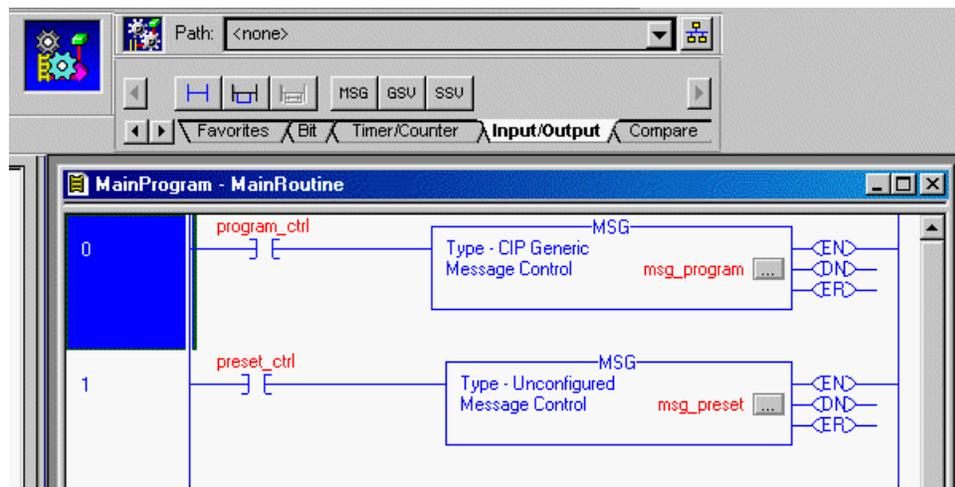

Figure 7.3 Message Instructions
- 5.4) Before you can use the message instruction, you must configure it by clicking on the ellipsis “...” button. Figure 7.3 shows two Message Instructions entered into ladder logic. The Language Element toolbar is docked above the ladder logic window with the Input/Output tab selected. Note that the first message shows a type of “CIP Generic” and the second shows “Unconfigured”.